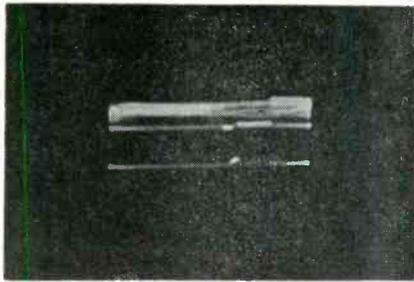

Fig. 1—Video waveform with evident signal compression.
A. This situation, which leads to white saturation of the picture, is shown in Fig. 1. To determine the amount of picture compression, a d-c scope should be used. The resting position of the scope trace, when no signal is applied, indicates the zero-